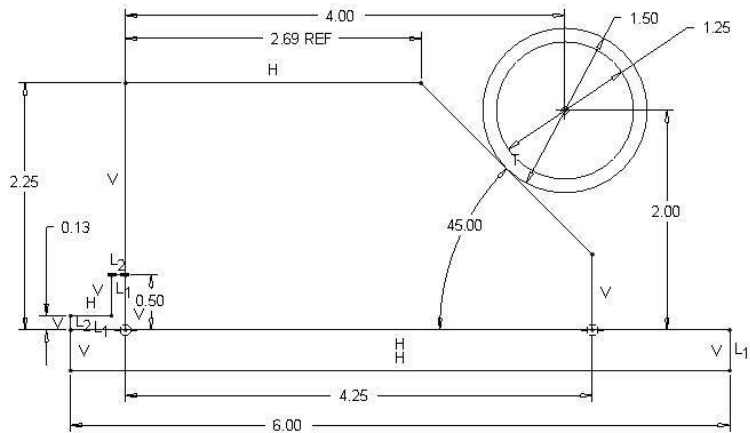

Figure 3-57 Reference Dimension Added
Step 17: The letters REF will appear after the reference dimension. At this point your sketch should look similar to the one shown in Figure 3-57. The top horizontal line of the jig needs to be 2.69 inches. This will cause the slanted side of the jig to just touch the outside diameter of the pipe.